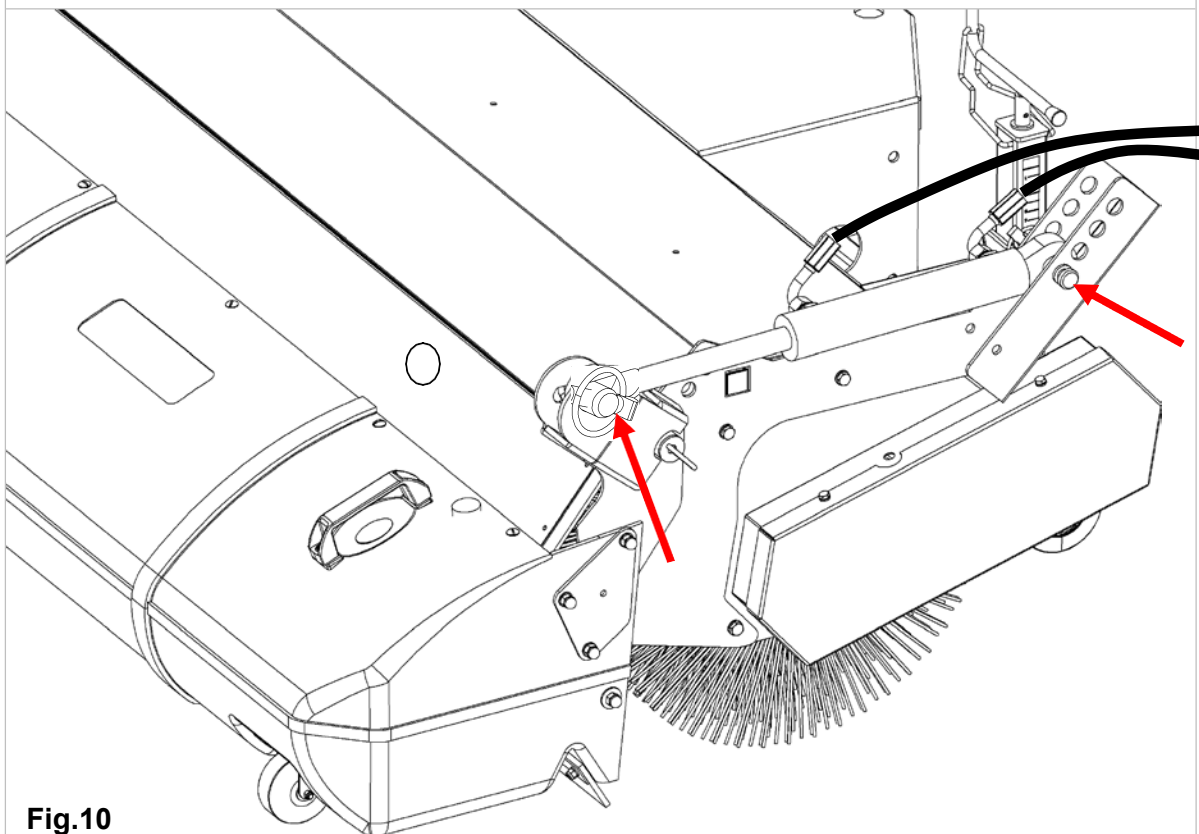

Fig.10
4. Install the hydraulic container emptying with the two locking pins, see Fig.10 and secure with hinged pins.